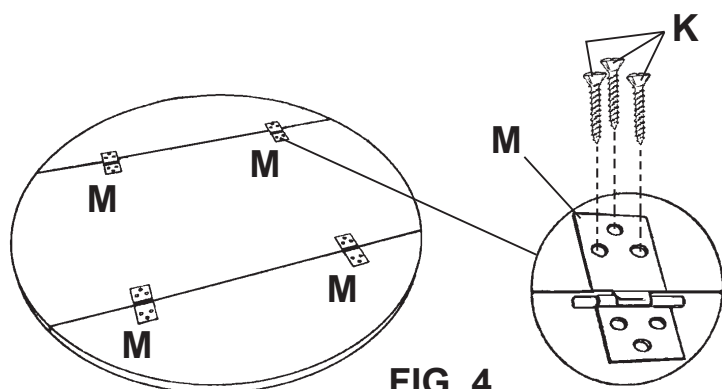

FIG. 4
- 4) Note that the top of each Leaf is more finely sanded. Place the table Top and Leaves on a flat surface. Protect the Top with a piece of carpet or cardboard to prevent marring. Place the Hinges (M) into the grooves on the underside of the Top, as shown in FIGURE 4. Drill a 3/32" pilot hole, 3/4" deep where the screws go in. To prevent accidental drilling through the table top, mark the drill bit with a piece of tape 3/4" from tip. Screw the Hinges in place using #10 x 1" Oval Head Screws (K).